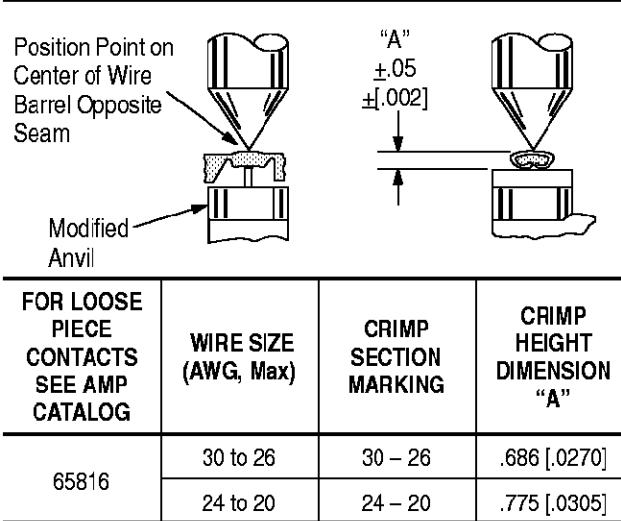

Figure 4
This inspection requires the use of a micrometer, with modified anvil, as shown in Figure 4. AMP recommends the modified micrometer (Crimp Height Comparator RS-1019-5LP) available from:
3. Using the crimp height comparator, measure the wire barrel crimp height as shown in Figure 4. If the crimp height conforms to the dimensions provided in Figure 4, then the tool is considered dimensionally correct. If the crimp height does not conform to the dimensions provided, return the tool to AMP for evaluation and repair (refer to Section 6, REPLACEMENT AND REPAIR).